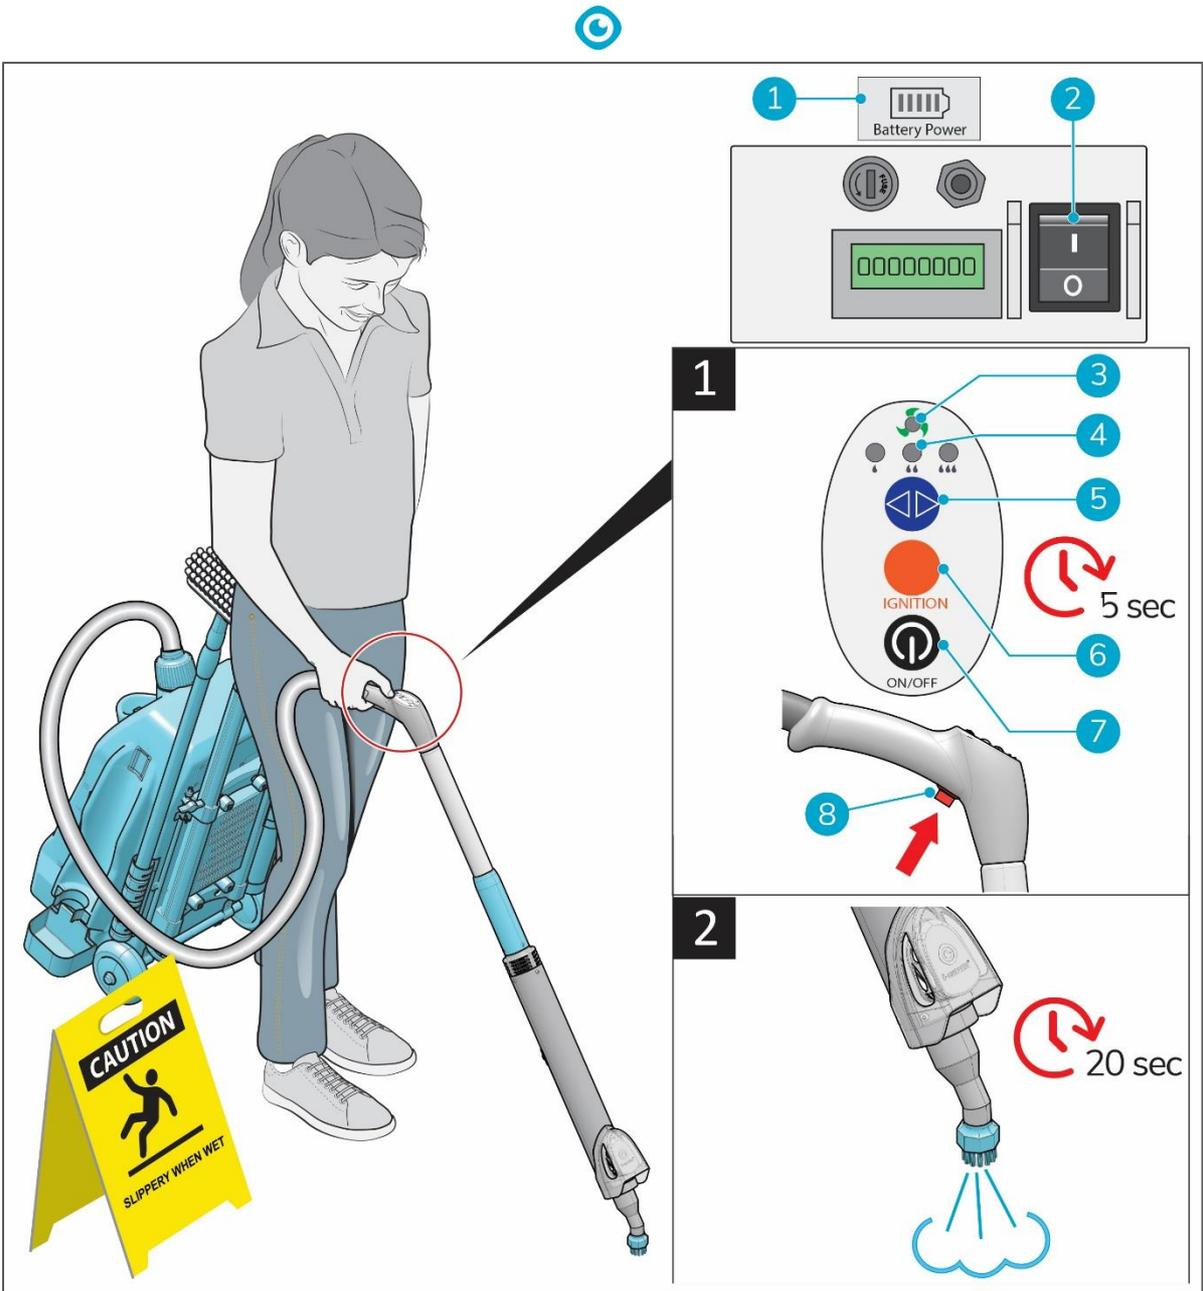

Figure 16
- pull the safety pin at the back of the i-gum® (Figure 16, pos 1);
- pull the gas cartridge holder (Figure 16, pos 4) at the same time.
6. Turn on the gas valve (Figure 16, pos 2) .
- close the gas cartridge holder (Figure 16, pos 4) at the same time.
8. Turn on the gas valve (Figure 16, pos 2).